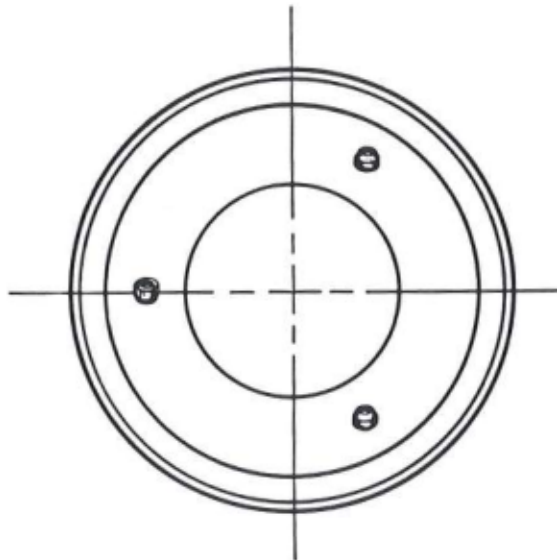

Figure 6-5. Location of Set Screws, Retainer Cap
### 6.2.1 Disassembly (see Figures 6-5 through 6-7)
- 1). Loosen the three Allen head set screws from the retaining cap (see Figure 6-5).